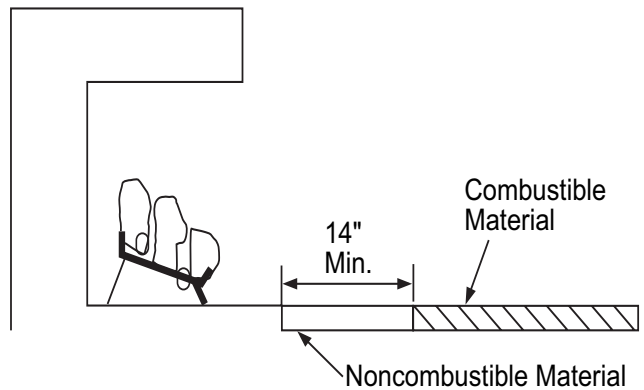

Figure 6 - Minimum Fireplace Clearances If Installed at Floor Level
- If installing appliance on the floor level, you must maintain the minimum distance of 14" to combustibles (see *Figure 6*).